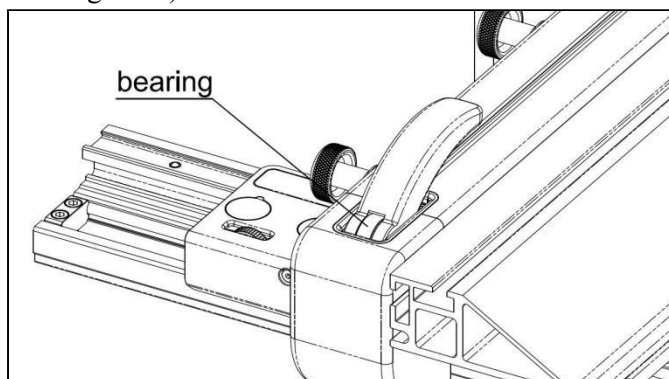

Fig. 14-1
- Do not let exposed bearings come into contact with water or sweat. Apply anti-rust spray in a timely manner (see Fig. 14-1).